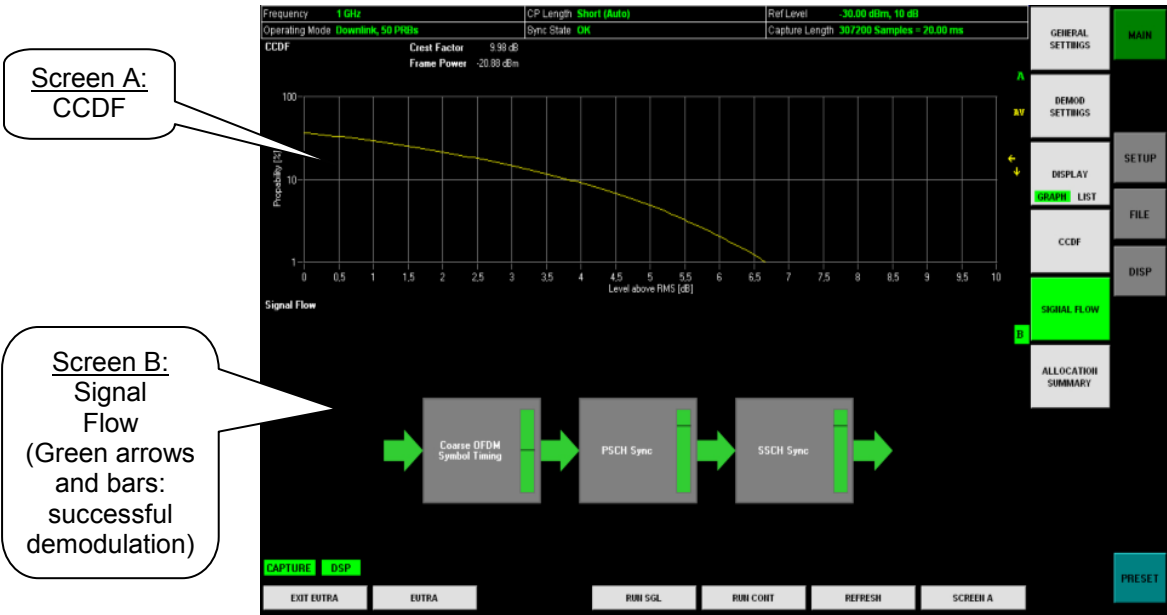
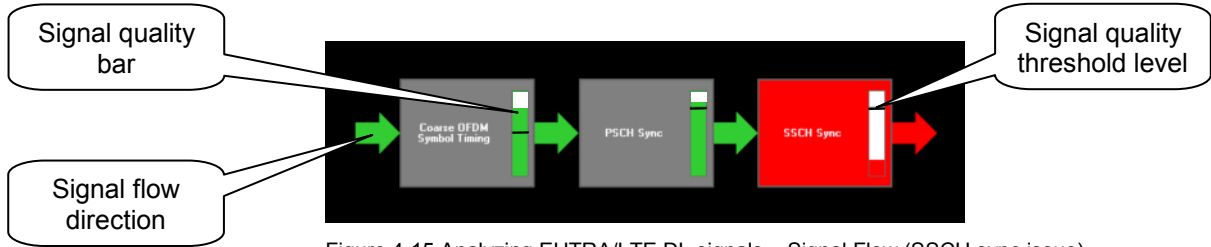

Figure 4-14 Analyzing EUTRA/LTE DL signals – CCDF and Signal Flow
Figure 4-15 Analyzing EUTRA/LTE DL signals – Signal Flow (SSCH sync issue)
10. Statistics: CCDF (Figure 4-14: Screen A)
11. Statistics: Signal Flow (Figure 4-14: Screen B)
- If the signal quality is degraded due to fading for instance the effected block resp. the associated signal quality bar, e.g. PSCH Sync, can still be green but with a reduced level as shown in Figure 4-15 (compare with Figure 4-14, screen B).
- If the quality level is above the threshold, it's coloured green, and demodulation resp. synchronization works. The indicator bar turns red if the quality bar is below threshold level (see SSCH sync block in Figure 4-15) and synchronization for example fails.